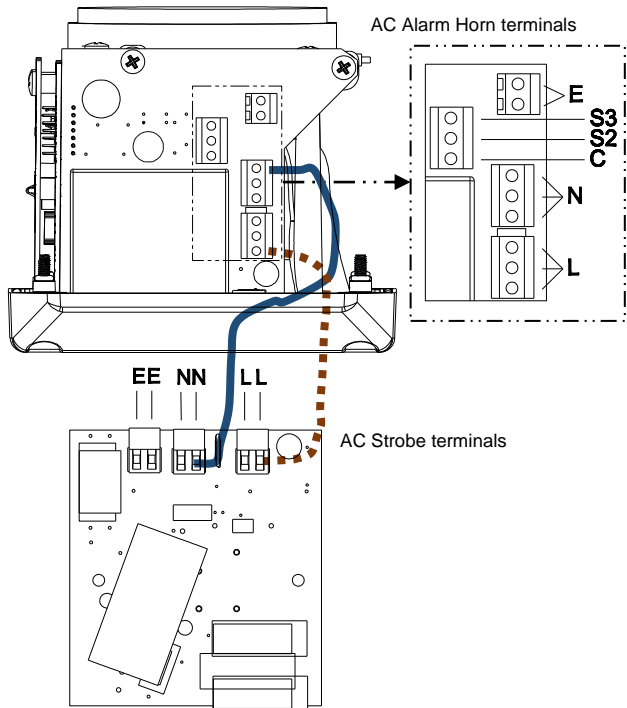
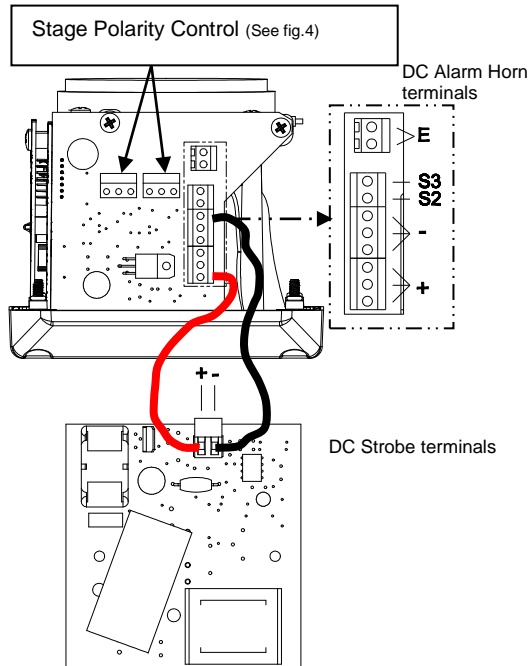

Fig. 5 AC Terminals
Fig. 8 DC Terminals
- c) Fit an M20x1.5 suitably rated, certified cable gland or conduit entry into the hole in the enclosure and connect the field wiring to the appropriate alarm horn terminals as shown in section 9 and fig 8 (DC) or section 8 fig 5 (AC) of this manual. The power supply terminals are duplicated so that horns may be connected in parallel and for DC units only an end of line monitoring resistor may be fitted. If the second M20x1.5 entry is not used a suitably rated, certified stopping plug must always be fitted.
Stage one (S1) operation: Simply connect the supply voltage to the L and N supply terminals, (see fig. 5). The Strobe is powered via factory installed wires connected to the sounder. The wires connecting the alarm horn and strobe can be removed if the user wishes to power the strobe separately.
Stage one (S1) operation: Simply connect the supply voltage to the + and - supply terminals, (see fig. 8). The Strobe is powered via factory installed wires connected to the alarm horn. The wires connecting the alarm horn and strobe can be removed if the user wishes to power the strobe separately.
Internal earthing connections should be made to the internal earth terminal on the PCBA, (please see fig 5 for AC, fig 8 for DC). The earth conductor should be at least equal in size and rating to the incoming power conductors. The internal earth bonding wire connects the PCBA earth terminal to the internal earth terminal in the enclosure back box.